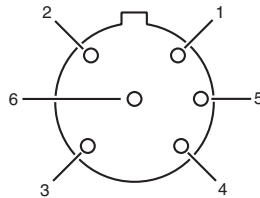

Figure 1-10. Agilent 8120-1082 Power Sensor Cable End View
- 2 Set the Agilent 34401A Digital Multimeter to measure resistance, and connect the DVM test prods between the center pin of the V_{RF} connector on the Agilent 432A Power Meter rear panel and pin 1 on the thermistor-mount end of the Agilent 8120-1082 Power Sensor Cable (see Figure 1-10 to locate pin 1).